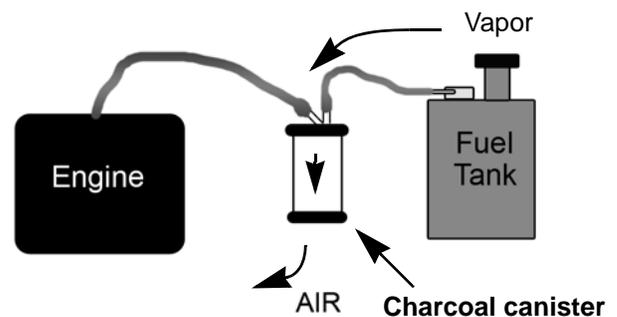

Figure 4.17
3. The vapors are routed through the charcoal canister. See Figure 4.17.